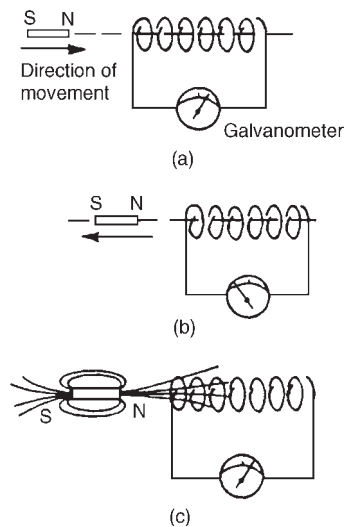

Figure 9.1
Figure 9.1(a) shows a coil of wire connected to a centre-zero galvanometer, which is a sensitive ammeter with the zero-current position in the centre of the scale.
- (a) When the magnet is moved at constant speed towards the coil (Figure 9.1(a)), a deflection is noted on the galvanometer showing that a current has been produced in the coil.
- (b) When the magnet is moved at the same speed as in (a) but away from the coil the same deflection is noted but is in the opposite direction (see Figure 9.1(b)).
Figure 9.1(c) shows the magnetic field associated with the magnet. As the magnet is moved towards the coil, the magnetic flux of the magnet moves across, or cuts, the coil. **It is the relative movement of the magnetic flux and the coil that causes an e.m.f. and thus current, to be induced in the coil.** This effect is known as electromagnetic induction. The laws of electromagnetic induction stated in Section 9.2 evolved from experiments such as those described above.